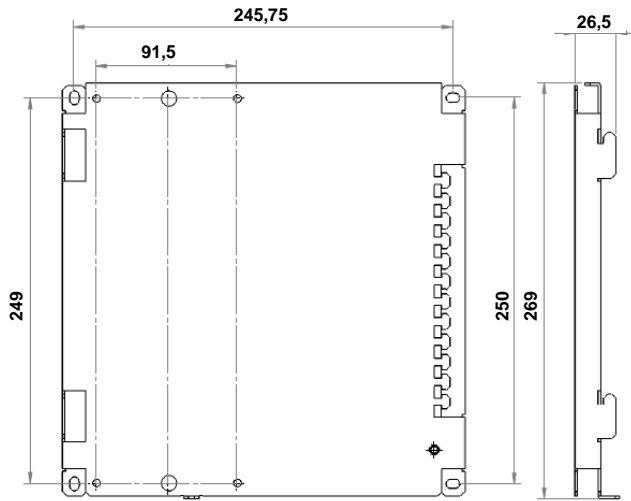

Fig no. 2 Dimensions of the REFUPMU®
- Mounting to walls, see Fig no. 2